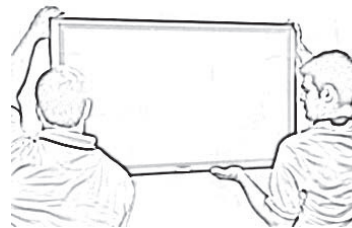

Figure 5
- A. Carefully lift the TV to hook the arms over the top lip of the wall plate. Allow the lower portion of the arms to swivel in under the bottom lip of the wall plate. Do not release the TV until it is completely connected to the wall plate (Figure 5).